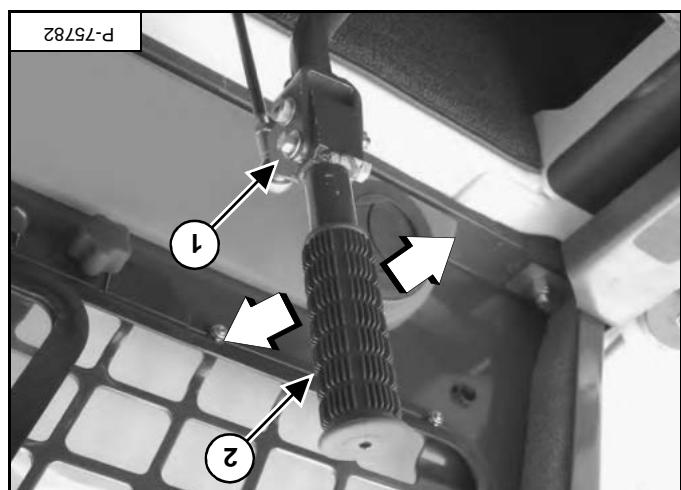

Figure OI-45
The handle of the right steering lever (item 2) [Figure OI-45] is also the control lever for the front auxiliary hydraulics.
**NOTE:** Remove the auxiliary control lock-out bolt and nut (item 1) [Figure OI-45] before using the auxiliary control for the first time.